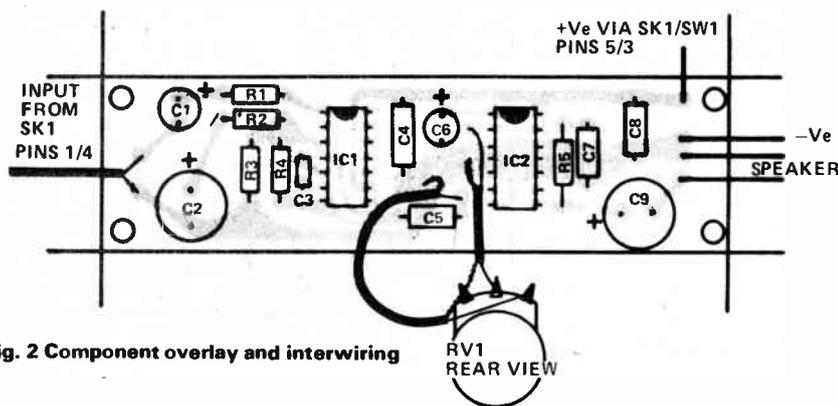

Fig. 2 Component overlay and interwiring
**Fig. 2 Terminal layout on standard key switch with four changeover on each half. Contacts shown as being made in this diagram are with the lever in the central position**
The circuit is a switching logic circuit. See Fig. 2. The cell and buzzer are between the outer vertical rails, and if ever a way between these two rails is set up by the switches then the alarm sounds. The circuit shows all the switches in the starting position i.e. all the missionaries and cannibals are on the near bank. Note that when any person goes over the river all switches changeover. The customary dotted lines showing the connections between coupled switches have been omitted for clarity. Thus, if M1 crosses the river, switches M1a, M1b, M1c, M1d, M1e, M1f, M1g and M1h all change over.